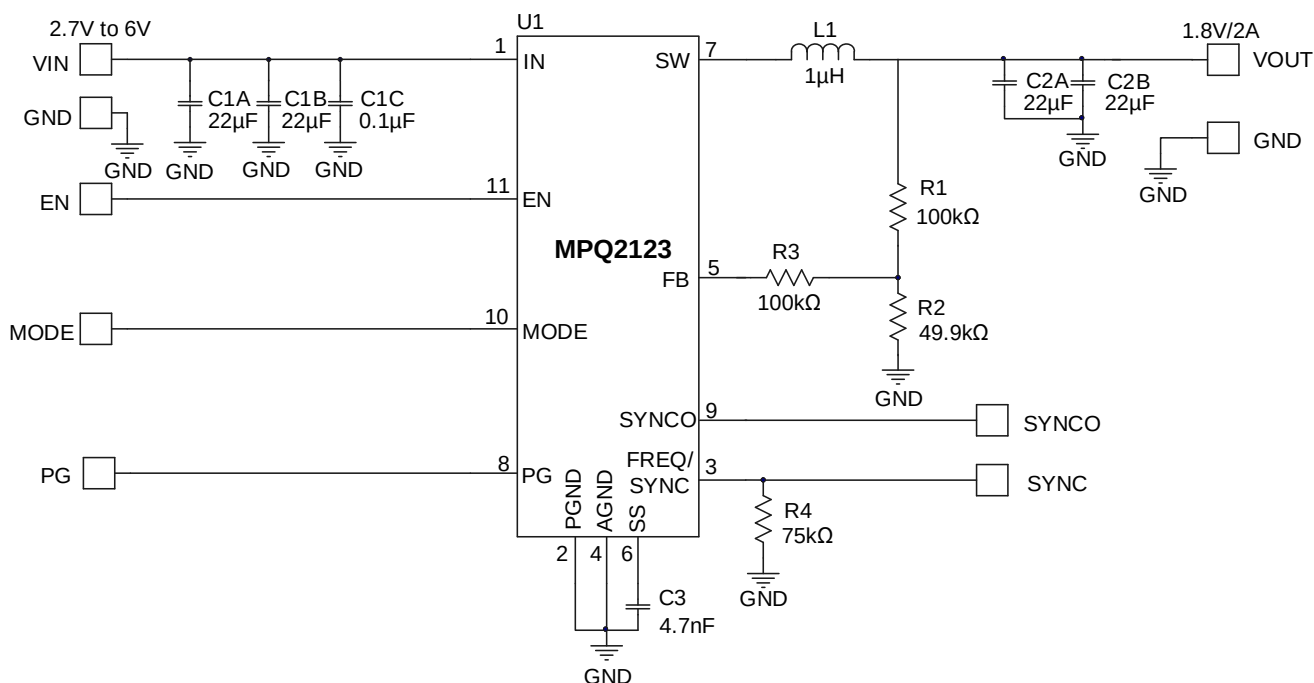

Figure 5: Typical Application Circuit, $V_{OUT} = 1.8V$, $I_{OUT} = 2A$
- 7) The recommended PCB layout is based on the Typical Application Circuit (see Figure 5 on page 23).